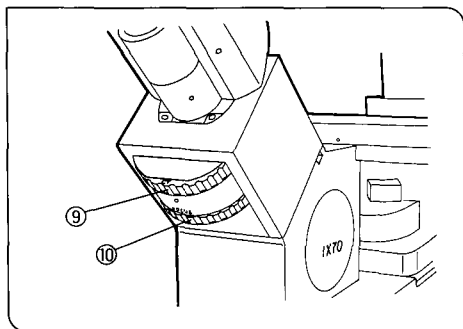

Fig. 98
7. When the binocular observation tube (U-BI90CT) is used, rotate the CT turret ⑨ to the "CT" position to engage the CT lens. (Fig. 98)